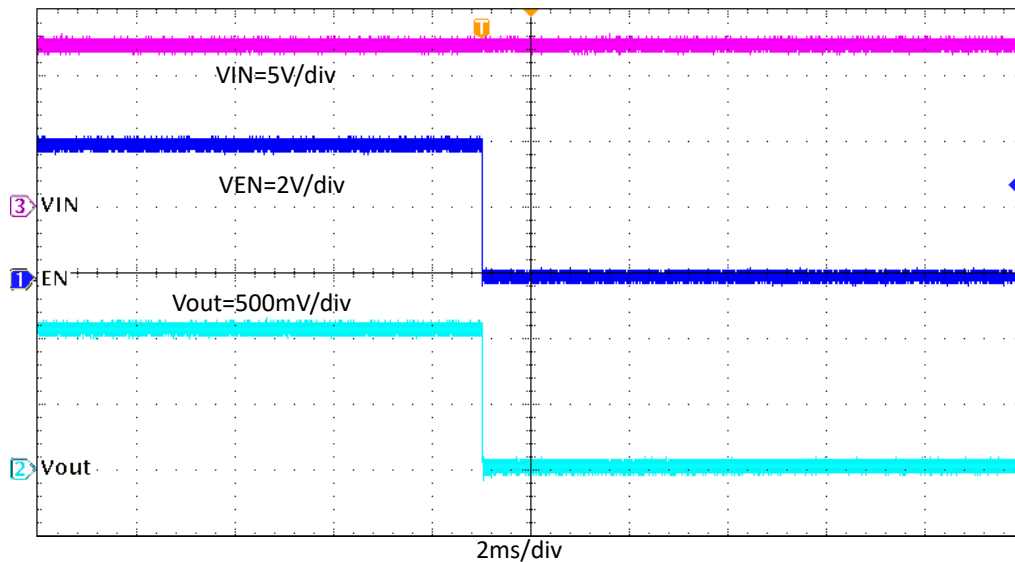

Figure 7-13. TPS562203EVM Shutdown Relative to EN
Figure 7-13 shows the TPS562203EVM shut-up waveform relative to enable (EN). The load is 2 A.